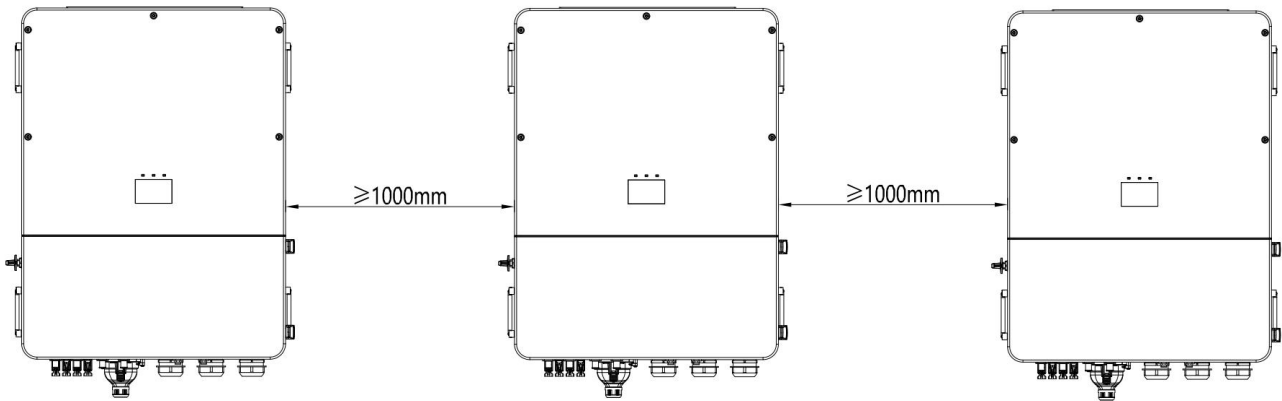

Figure 4.5 Dimension requirements for side-by-side installation
(3) When installing multiple inverters, it is necessary to reserve a certain distance (left and right) between inverters, as shown in Figure 4.5, and at the same time, sufficient space should be reserved from the top and bottom of inverters to ensure good heat dissipation.